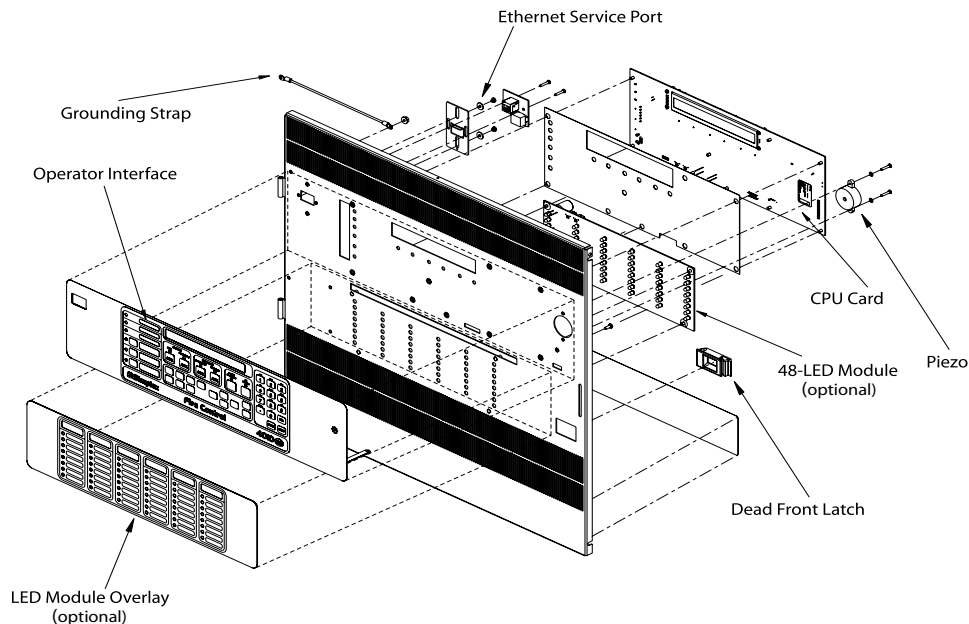
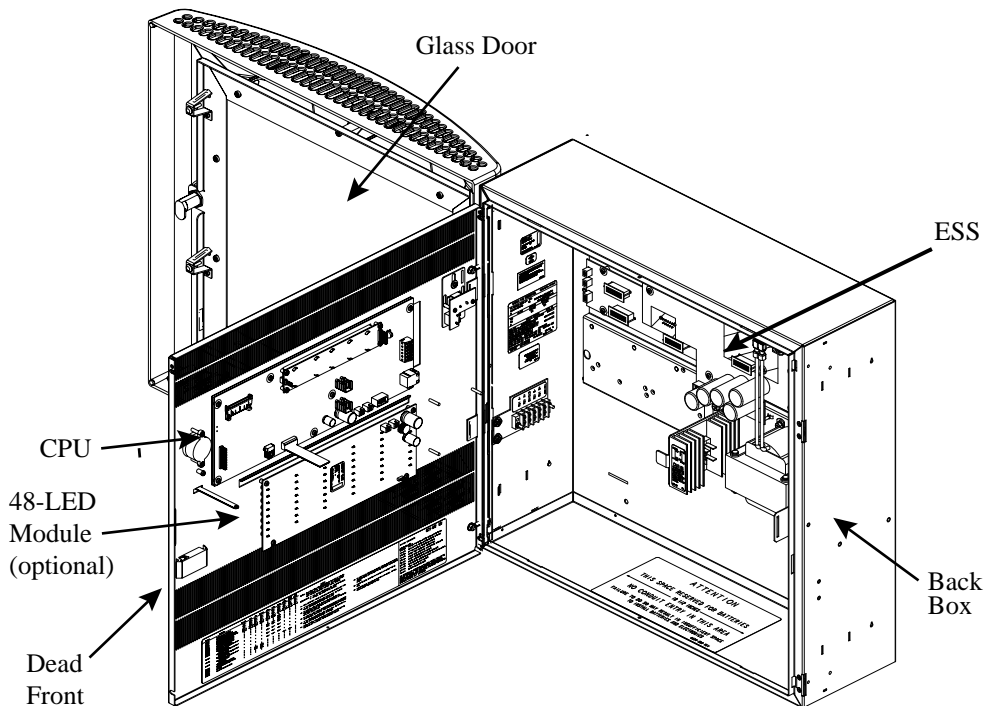

Figure 3-1. One-bay dead front with optional 48-LED Module
Figure 3-2. One-bay 4010ES panel (shown with optional LED module)
**Note:** The dead front on a one-bay 4010ES panel is different for 48-LED Module configurations, as seen in Figure 3-1. See Figure 3-2 for detailed diagrams of one-bay 4010ES panels.